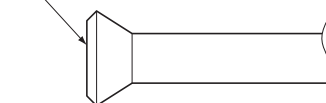

Fig. 13
- When connecting the flare nut, coat the flare section with ester oil or ether oil, rotate three or four times first, then screw in. (Refer to Fig. 13)